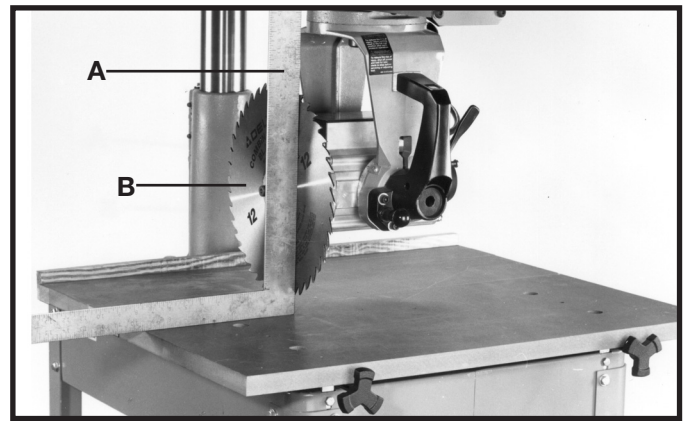

Fig. 42
2. Remove the blade guard and place the cuttinghead in a cross-cut position as shown in Fig. 42.
3. Place a steel square (A) Fig. 42, against saw blade (B) and table, and check to see if the blade (B) is square with the table. Make certain the square is between the teeth of the saw blade.